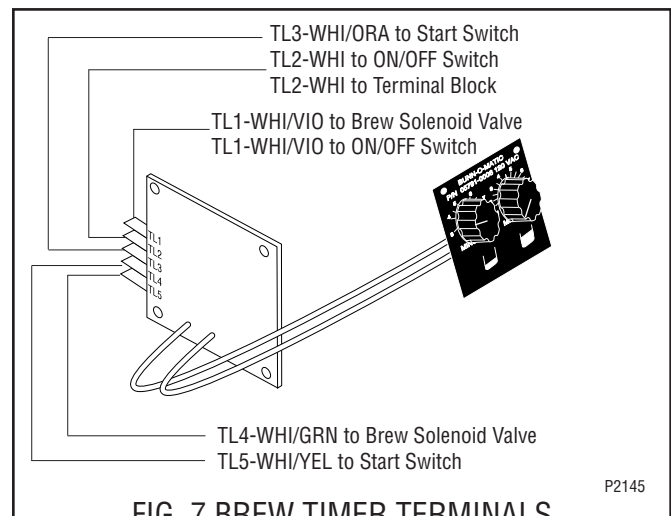

FIG. 7 BREW TIMER TERMINALS
4. Refer to Fig. 7 when reconnecting the wires.